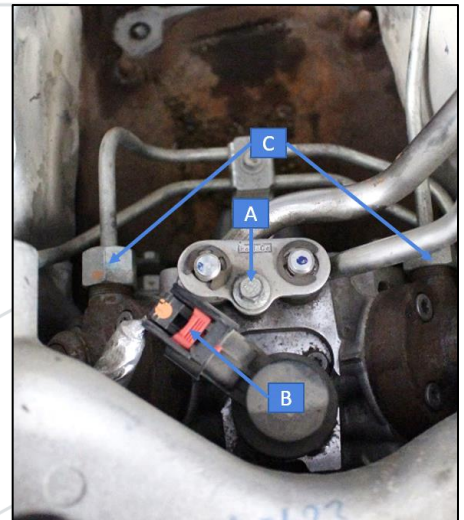

Figure 12: Fuel Lines to CP4 Pump
21. Referring to Figure 12, remove the hold down bolt (Labeled as A) connecting the line assembly to the CP4 fuel pump in the valley (this bolt will be reused with the DCR pump).
**30. Referring to Figure 12, unplug the fuel control actuator (FCA/VCV) electrical connector (Labeled as B in Figure 12) on top of the CP4 pump. The red locking tab slides back and then you push down on it to release.**